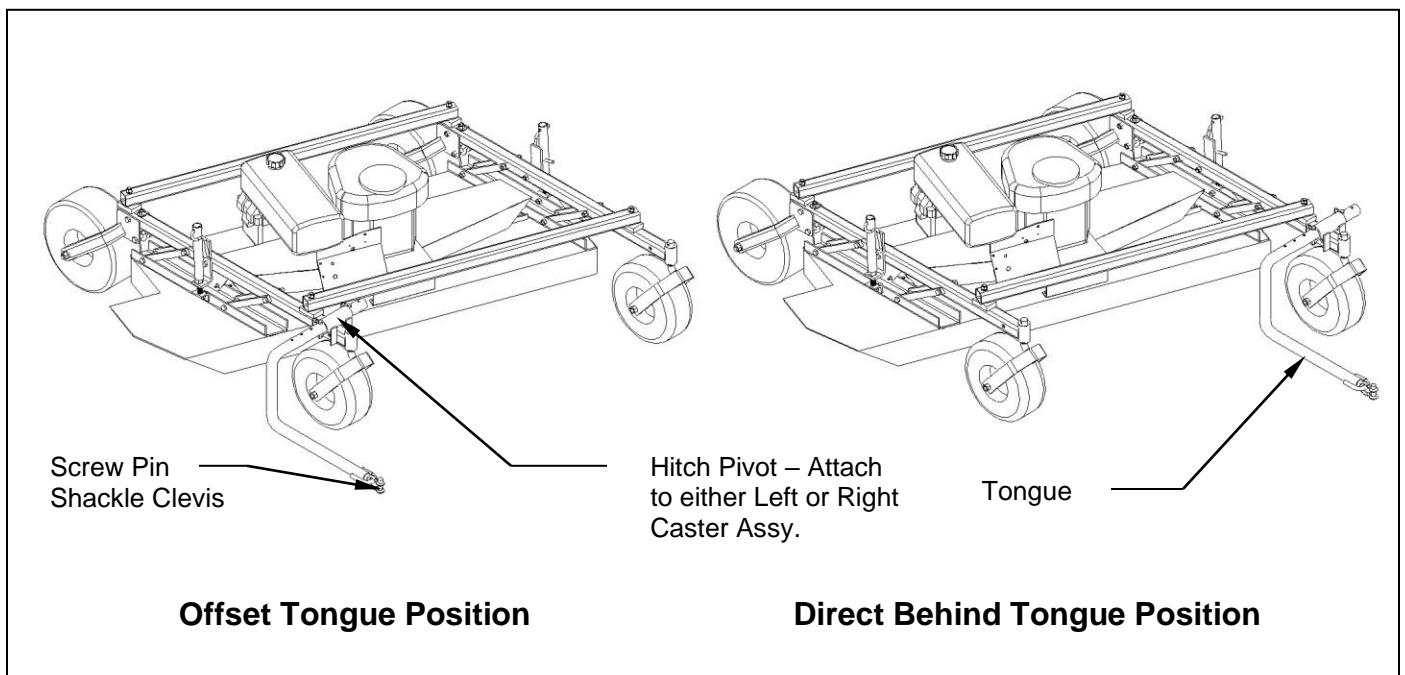

Figure 3. Assembly of Hitch Pivot and ATV Tongue
1. The tongue can be installed either on the left or right caster assembly depending on how the wing mower will be towed. **See figure 3.** Secure the hitch pivot on the chosen caster assembly with the 1/2" x 3-1/2" hex head bolt, lock washer, and nut provided.
**Note:** When pulling the wing mower directly behind, it is most maneuverable when the hitch pivot is fastened on the left carrier arm. **See Figure 3.** When pulling the wing mower in the offset position, it is most maneuverable to have the hitch pivot fastened on the right carrier arm. **See Figure 3.**